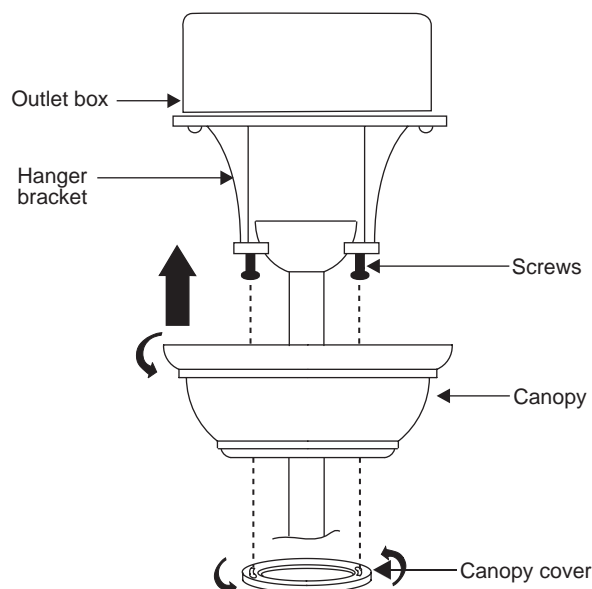

Figure 13
**Step 2.** Slide the canopy up to ceiling and over the two screws on hanger bracket. Rotate canopy clockwise, next, while holding the canopy with one hand, slide the canopy cover over the screws and rotate clockwise until tight. **Note:** adjust the canopy screws as necessary until the canopy and canopy cover are snug. (Fig.13)